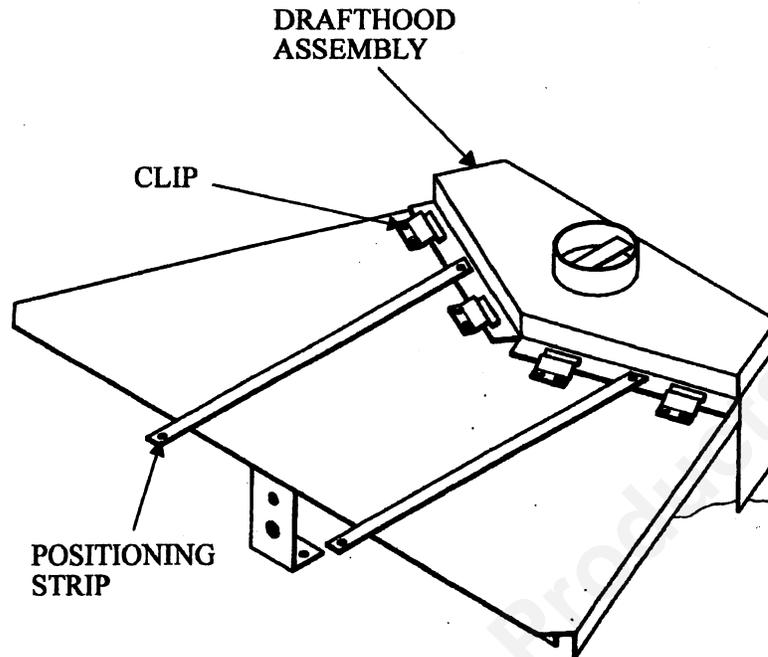

Figure 11 Drafthood Mounting
8. Push the heater back until the front firebox flanges are 1/4" (6mm) in front of the masonry or factory built fireplace facing, or flush with the zero clearance enclosure. As the heater is pushed back, pull the draffhood positioning strips firmly toward the heater front until the draffhood flange is secured under the top clips of the heater as shown in Figure 11.